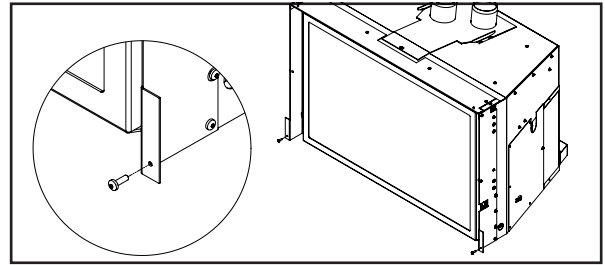

Figure 44: Trimmable Panel Screw Install.
INSTALLATION: Using a T20 screwdriver, screw one (1) #8-32 x .5" screws approximately 1/4" into the bottom of each Side Extension (see Figure 44).